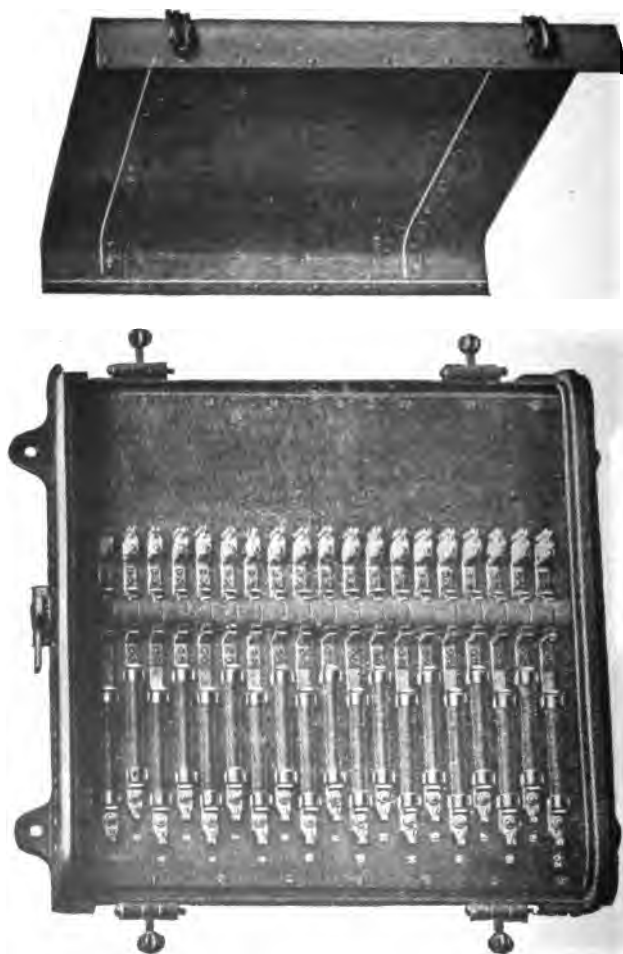
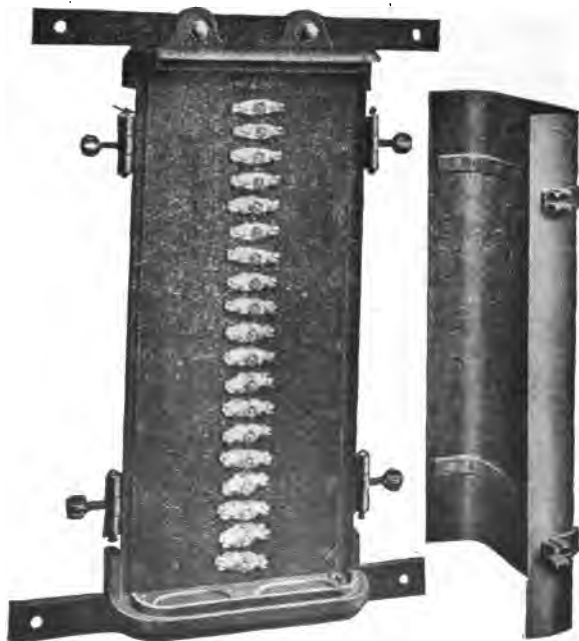

Fig. 517. Train Cable Connection Box.
Fig. 518. Plain Connection Box.
67. TRAIN CABLE CONNECTION BOXES are used for making connections from master controller and coupler sockets to the train cable. One of these connection boxes (Fig. 517) is combined with the twenty-point cut-out switch. This is mounted on the back of the master controller on the "A" end of the cab. This is the No. 2 connection box. The plain connection box (Fig. 518) is
69. THE CONTROL CUT-OUT SWITCH (Fig. 517) has already been referred to under the subject of CONNECTION BOXES. The connection studs of this box also serve the purpose of the No. 2 connection box. This cut-out switch serves the purpose of disconnecting the control circuits of contactors and reversers on a locomotive from the train line. The cut-out switch has twenty sets of contacts which are connected or disconnected accordingly as the handle is full around to the left or to the right.
70. CONTROL FUSES (Fig. 517) are mounted on the same insulation back as the cut-out switch and are contained in the same box. The fuses numbered from the top protect the following circuits: